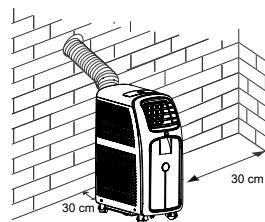

Fig. 1.
1) Ensure at least 30 cm of free space on the filtering side of the unit (Fig. 1).